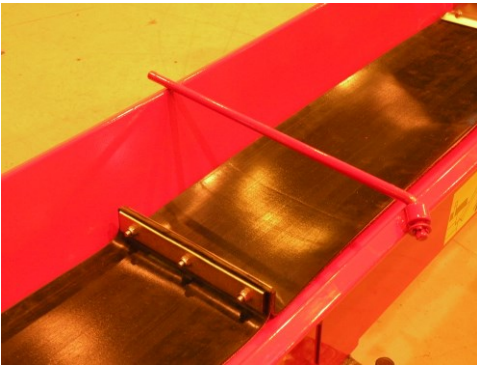

Figure 722
7.2-2 Note! The lever that prevents the belt from rolling was turned to the side in Section 7.1-6. When lifting, you must first turn this lever against the out-feed conveyor (Figure 722). This prevents the belt from rolling down and becoming damaged.